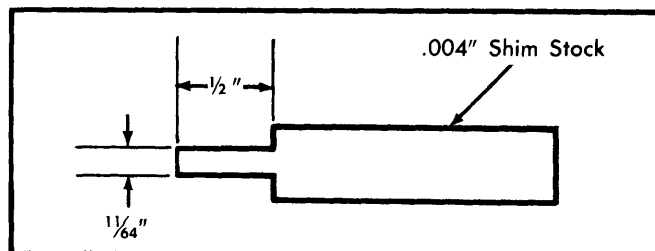

Fig. 7 Rear Main Oil Seal Installing Tool
**Installation** — 1) Coat seal lips and bead with light engine oil, keeping oil off seal mating ends. To replace upper seal, fabricate a tool from .004" shim stock (see Fig. 7). Position tip of tool between crankshaft and seal seat, then position seal between crankshaft and tip of tool so seal bead contacts tip of tool.